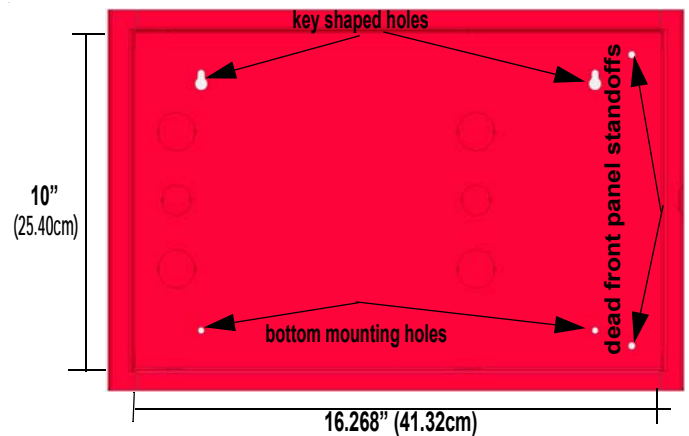

Figure 2 Cabinet Mounting Holes
3. Insert the two screws into the two bottom mounting holes. Tighten the screws and secure the screws to the cabinet. Refer to Figure 2.